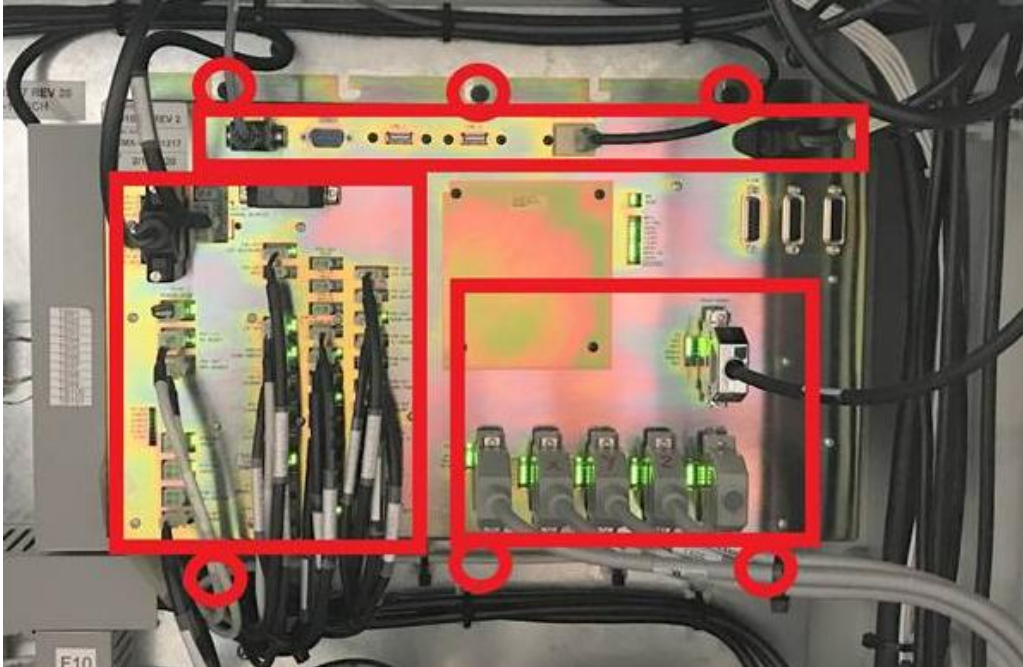

Figure 5.1.2.4 - Computer Module Replacement
2. Start with the power cord in the upper right-hand corner and unplug all the cables connected to the Computer Module as shown in figure 5.1.2.4.
3. Remove the Computer Module from the Programming Panel by removing the 6 screws (circled in figure 5.1.2.4), 3 along the top and three along the bottom of the enclosure.
5. Replace the cables connected to the Computer Module as shown in figure 5.1.2.4. Each cable is marked with its location on the enclosure, be sure to double check the correct wiring before attaching the power cord.